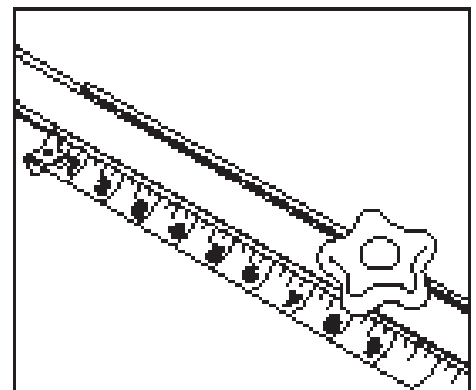

Fig.8
1. Thread the plastic tightening knobs into the holes on the Awnbrella arms. Extend one Awnbrella arm and measure from the pointed tip end so that the knob is approximately 8 inches from the end of the C-channel. Tighten the knob (**Fig.8**).